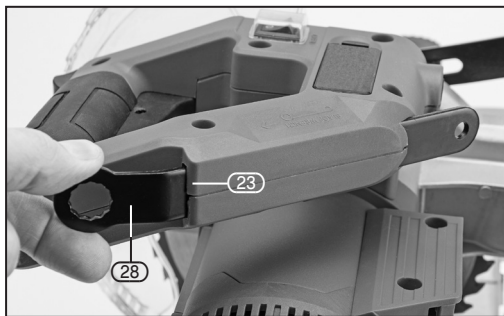

FIG. 19
6.16 BLADE SPANNER STORAGE COMPARTMENT – FIG.19